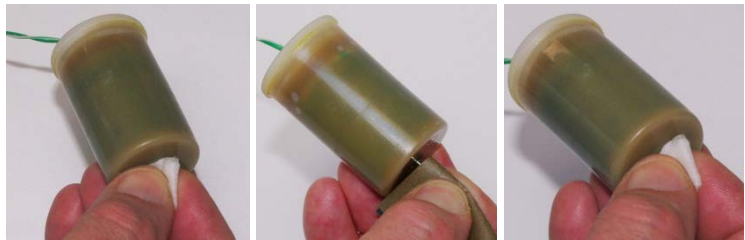

Figure 2.5-1: Cleaning, Roughening, and Re-cleaning a Motor Shaft
1. Wipe the shaft of each motor using a paper towel to remove excess wax that may be left after the potting process, as shown in Figure 2.5-1.
4. Use a vise or pair of pliers to hold a threaded coupler, as shown in Figure 2.5-1.